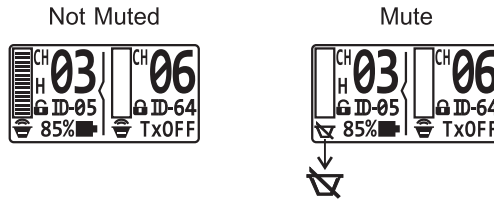

Fig. 28
- (B) Turn and locate Exit & Save status bar, press once returns to home screen.
- (C) Current version maybe changed.
10. Transmitter Mute Icon, see Fig. 28: